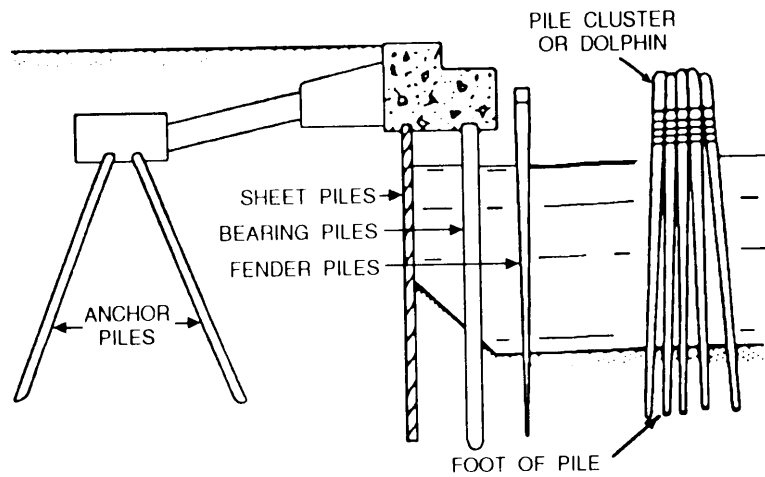

Figure 12-75.—Typical uses of piles driven in a waterfront structure.
8. Anchor piles. An anchor pile may be used to anchor bulkheads, retaining walls, and guy wires. They resist tension or uplift loads (fig. 12-75).
9. Dolphin piles. As shown in figure 12-75, dolphin piles are a group of piles driven close together in water and tied together so that the group will withstand lateral forces, such as boats and other floating objects.
10. Fender piles. As shown in figure 12-75, fender piles are driven in front of a structure to protect it from damage.
11. Foot of pile. As shown in figure 12-75, the foot of a pile is the lower end of a driven pile, which is the smaller end.